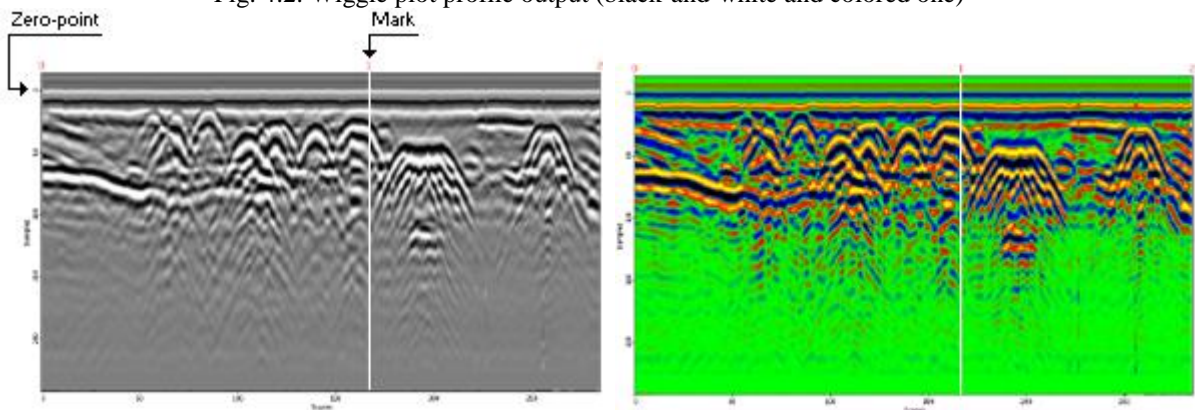

Fig.4.3 Line scan output (grayscale and colored one)
- **Direct ground wave** – it's a wave that travels along the ground surface interface at velocity (V) corresponding to the ground permittivity ($V = c / \sqrt{\epsilon}$).
- **Line scan** – is a method of the profile output, where traces are located vertically, close to each other, and are drawn as vertical lines. The color at each point on the trace line depends on the amplitude of the corresponding trace sample according to the selected color scale. The line scan examples are shown in Fig. 4.3.
- **Mark** – it's a feature of some profile trace, indicating some uniqueness of this trace and, consequently, a point of the profiling route. Marks are used to bind the profile to the terrain. User is able to add marks by pressing the button while passing any landmarks on the ground or pre-placed pickets. These marks will be displayed along with the profile, while its output. Marks examples you can see in Fig.4.3.
*Note: The most informative output method is the **line scan** in the **grayscale** palette (see Fig. 4.3, left side).*